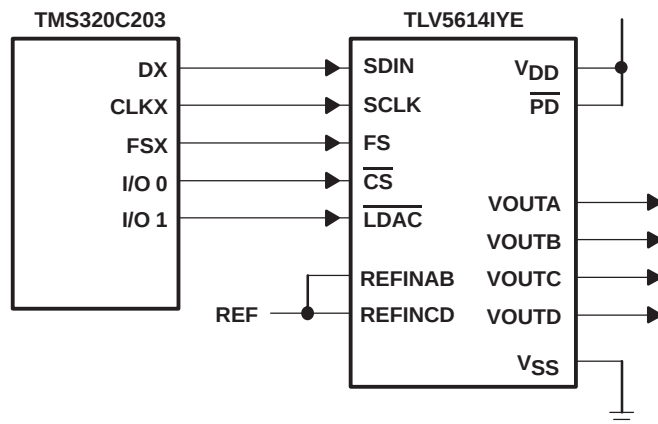

Figure 18. TLV5614IYE Interfaced With TMS320C203
Figure 18 shows an example of how to connect the TLV5614IYE to a TMS320C203 DSP. The serial port is configured in burst mode, with FSX generated by the TMS320C203 to provide the frame sync (FS) input to the TLV5614IYE. Data is transmitted on the DX line, with the serial clock input on the CLKX line. The general-purpose input/output port bits IO0 and IO1 are used to generate the chip select ( $\overline{CS}$ ) and DAC latch update ( $\overline{LDAC}$ ) inputs to the TLV5614IYE. The active low power down ( $\overline{PD}$ ) is pulled high all the time to ensure the DACs are enabled.